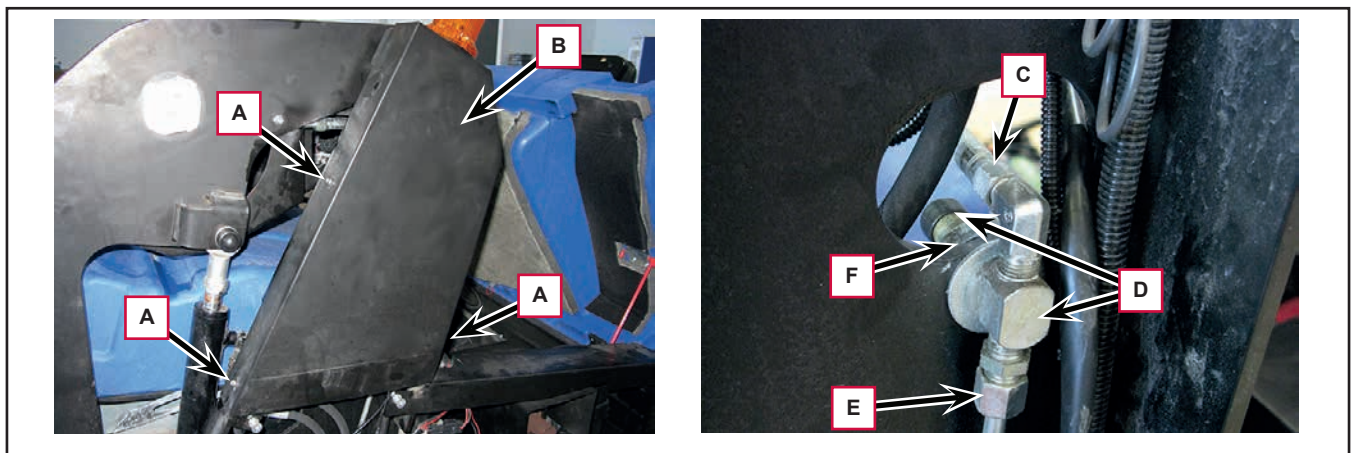

Figure 23
1. Engine complete (A, Figure 23).
2. Oil cap (B).
3. Engine coil ignition (C).
4. Carburetor (D).
5. Filter box cover (E).
6. Air filter (F).
7. Muffler gasket (G).
8. Pipe exhaust gasket (H).
9. Muffler (I).
10. Starter Motor (J).
11. Muffler guard (K).